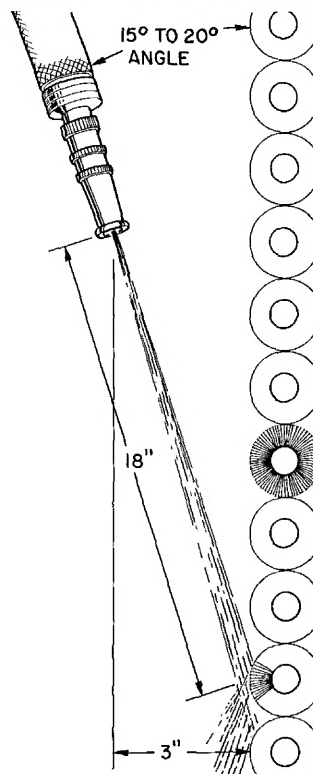

Fig. 18 — Positioning Hose to Spray Coil
5. Using garden hose, spray coil perpendicularly to coil tubes with a constant stream of water at moderate pressure (see Fig. 18). Keep nozzle at a 15 to 20 degree angle, about 3 in. from coil face and 18 in. from tube. Spray so debris is washed out and away from coil making sure water does not contact components on side of chassis.